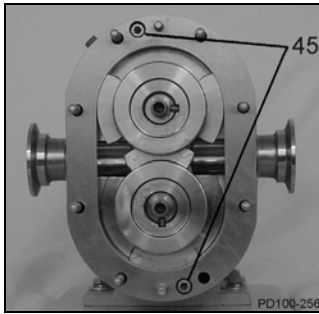

Figure 36 - Location of Cap Screws
1. Remove the two body retaining cap screws (Figure 36, item 45).